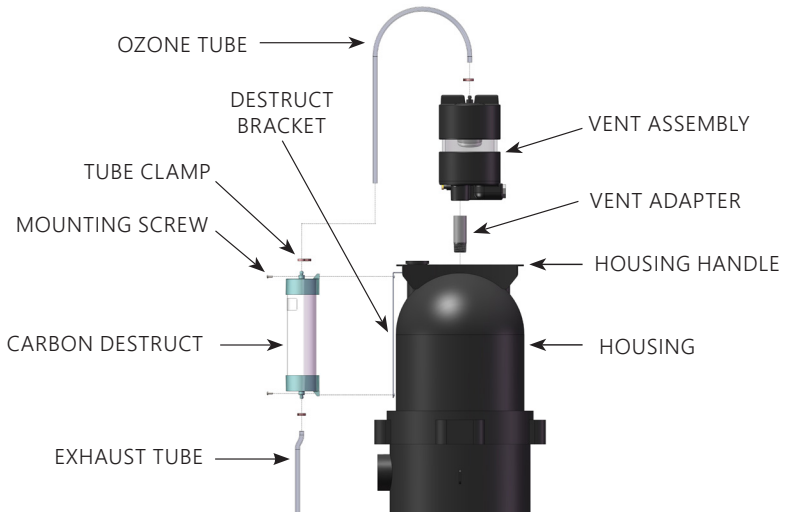

Figure 2: Assembly Components
2. Apply thread sealant to Vent Adapter threads. Install Vent Adapter through the hole in the Housing Handle and into the Housing as shown in **Figure 2**.
3. Use PVC primer and PVC glue to attach the Vent Assembly to the open pipe end of the Vent Adapter. Orient the Vent Assembly as shown in **Figure 2**.
4. Mount the Carbon Destruct to the Destruct Bracket with the two Mounting Screws provided as shown in **Figure 2**.
5. Connect the Ozone Tube and Exhaust Tube using the Tube Clamps as shown in **Figure 2**. Tubing Clamps should be tightened behind the hose barb feature for proper attachment.